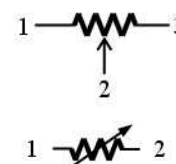

Figure 7: Two ways potentiometers are shown on schematics.
**Potentiometers** (or “pots”) are variable resistors with three leads. The top half of Figure 7 shows a full schematic, but the lower picture is usually used for compactness. The arm at lead #2 is called the wiper, and turning the potentiometer knob controls its position. While the resistance between #1 and #3 always remains the same, the knob varies the resistance between leads #1 and #2 (and between #2 and #3). Another way to think of this is as a variable voltage divider. The value between either #1 and #2 or #2 and #3 can be varied from zero to the pot’s full value.